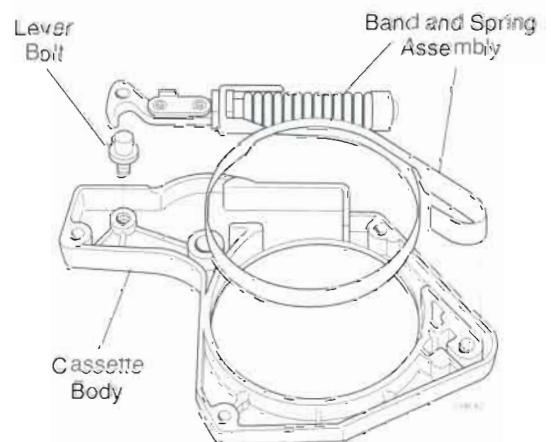

Figure 10.15 Band and Spring Removal
STEP 4. Remove the 5 mm screw installed during Step 1, and then lift the band and spring assembly from the chain brake casting (Figure 10.15).